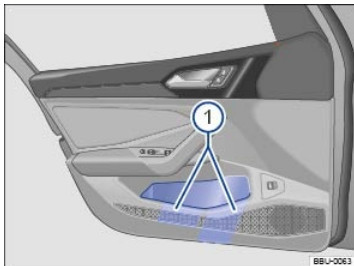

Fig. 133 In the driver door: Storage compartment.
There is a storage compartment in each vehicle door ⇒ Fig. 133①.